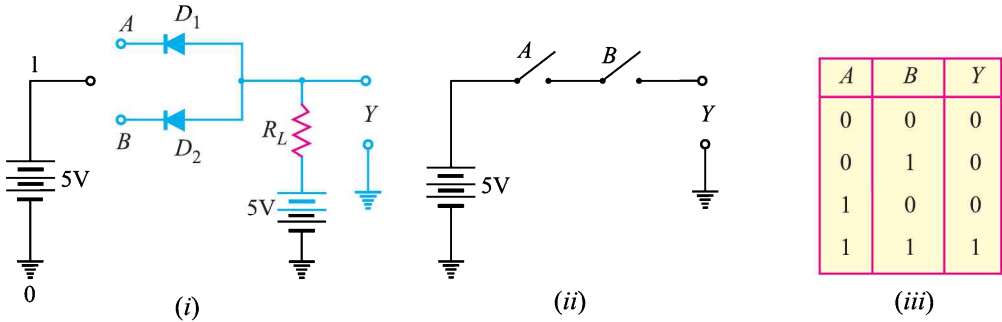

Fig. 26.8
AND gate operation. Fig. 26.8 (i) shows one way to build a 2-input AND gate while *Fig. 26.8 (ii) shows its simplified schematic diagram. There are only four input-output possibilities.
(i) When both A and B are connected to ground, both the diodes (D₁ and D₂) are forward biased and hence they conduct current. Consequently, the two diodes are grounded and output voltage is zero. In terms of binary, when A = 0 and B = 0, then Y = 0 as shown in truth table in Fig. 26.8 (iii).
* Note that two switches used to represent the OR function were connected in parallel. If the switches are connected in series [See Fig. 26.8 (ii)], AND function is obtained. The output is high if both the switches are closed. The output will be low if either switch is open.